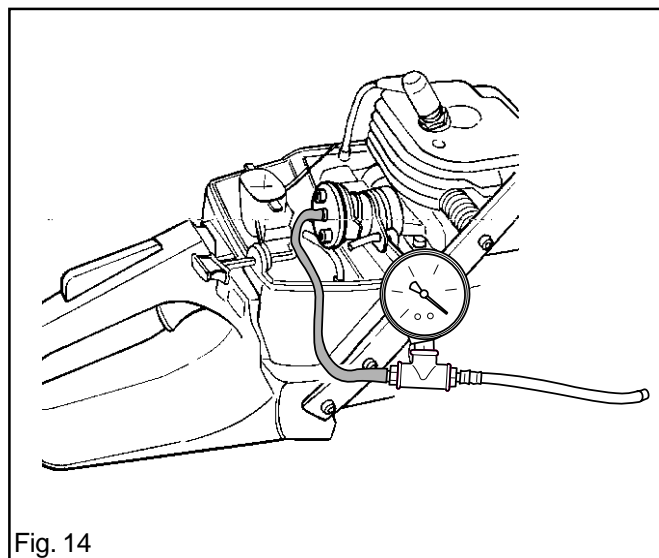

Fig. 14
2. Connect tool 502 50 38-01 to the cover plate on the intake manifold. See fig.14. The decompression valve should be closed.